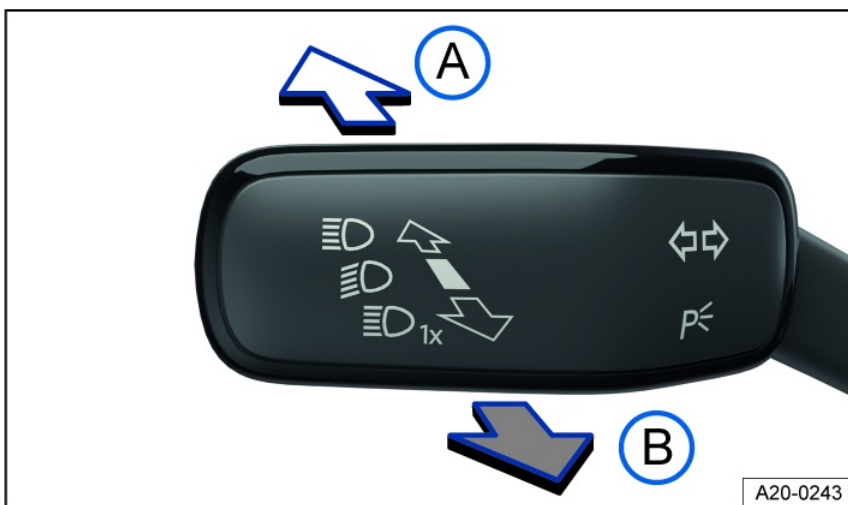

Fig. 83 On the left side of the steering column: turn signal and high beam lever.
3. Press the turn signal and high beam lever forward out of the center position *fig. 83*.
1. Pull the turn signal and high beam lever backward out of the center position *fig. 83*.
1. Pull the turn signal and high beam lever backward out of the center position and hold it *fig. 83*.